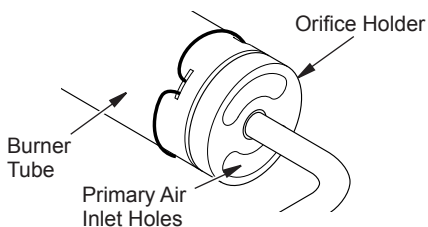

Figure 33 - Orifice Holder On Outlet Burner Tube
2. Inspect burner, pilot and primary air inlet holes on orifice holder for dust and dirt (see Figure 33).